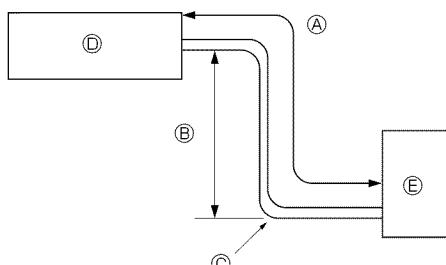

Fig. 2-1
2.1. Refrigerant pipe (Fig. 2-1)
④ Pipe length (one way)	⑤ Height difference	⑥ Number of bends (one way)